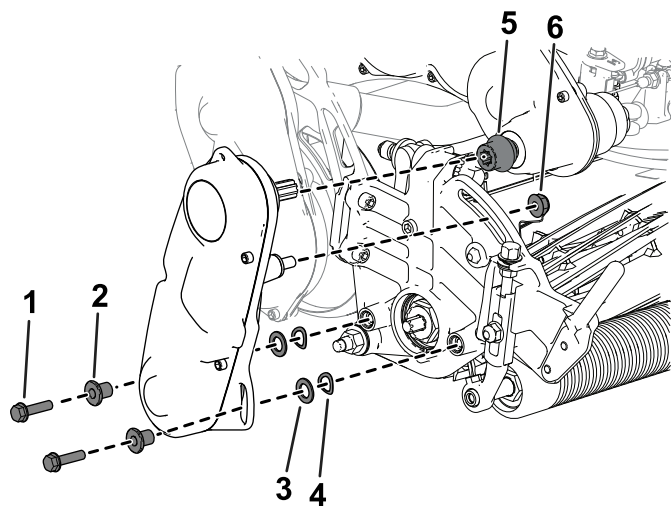

Figure 45
6. Use the previously removed socket-head screws, washers, and spacers to secure the reel-drive assembly to the cutting-unit side plate (Figure 45).
Ensure that the reel-drive-assembly driveshaft is installed to the transmission-driveshaft coupler (Figure 45).